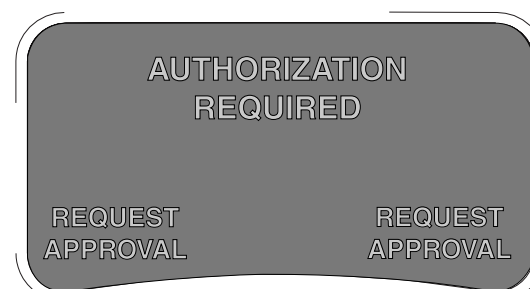

FIG. 13
1. Press either the left keypad or right keypad button under REQUEST APPROVAL. This sends the request to the parts room administrator's PC for dispense authorization. See FIG. 13.